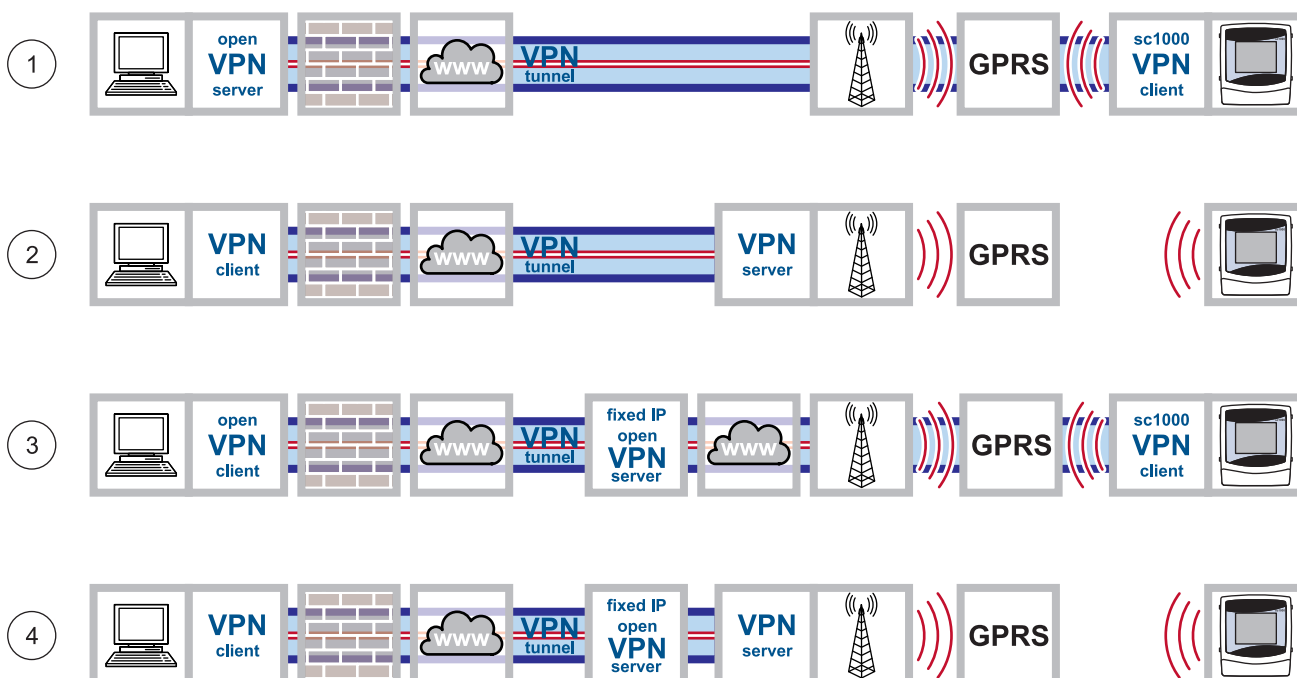

Figure 18 GPRS connections
All GPRS connections are managed via a mobile network operator. The following types of GPRS connection are detailed in this manual (Figure 18):
- GPRS connection with secure VPN tunnel (Figure 18, point 1)
- GPRS connection via a VPN server of the mobile network operator (only possible if a CDA (Corporate Data Access) account is set up with the mobile network operator) (Figure 18, point 2)
- GPRS connection via fixed IP VPN server (Figure 18, point 3)
- GPRS connection via a fixed IP service and VPN server of the mobile network operator (Figure 18, point 4)